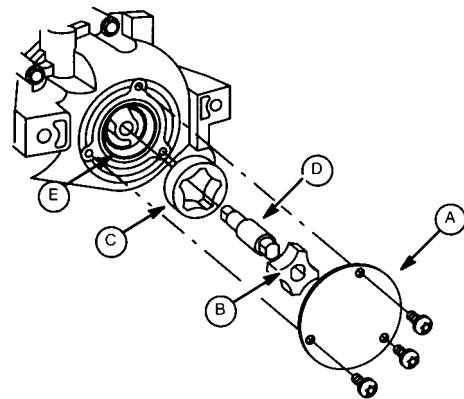

**Fig. 9 - Install Breather**
2. Install breather with new gasket, Fig. 9.